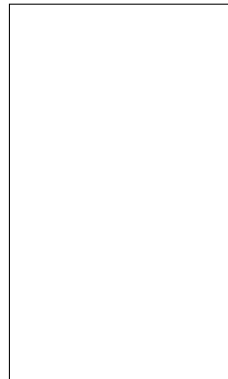

Figure 6: Schematic of the connection between Arduino UNO and the MCP4921.
1. Using Fig. 6 as a reference, connect the Teensy to the MCP4921 DAC. Connect the MCP4921's VDD and VREF pins to the LM317 regulator's output (4 V) and both AVSS and  $\overline{\text{LDAC}}$  to ground. A 0.1  $\mu\text{F}$  and a 1  $\mu\text{F}$  capacitor could be used at VREF to minimize noise at the reference. Connect the Teensy with the computer using a USB cable, which is used to program the Teensy and power it up. It is very important to keep your circuit (ICs, resistors, capacitors, wires, etc) organized. Use as short of a wire as possible between two connection points. Refer to Fig. 7 for an example layout.